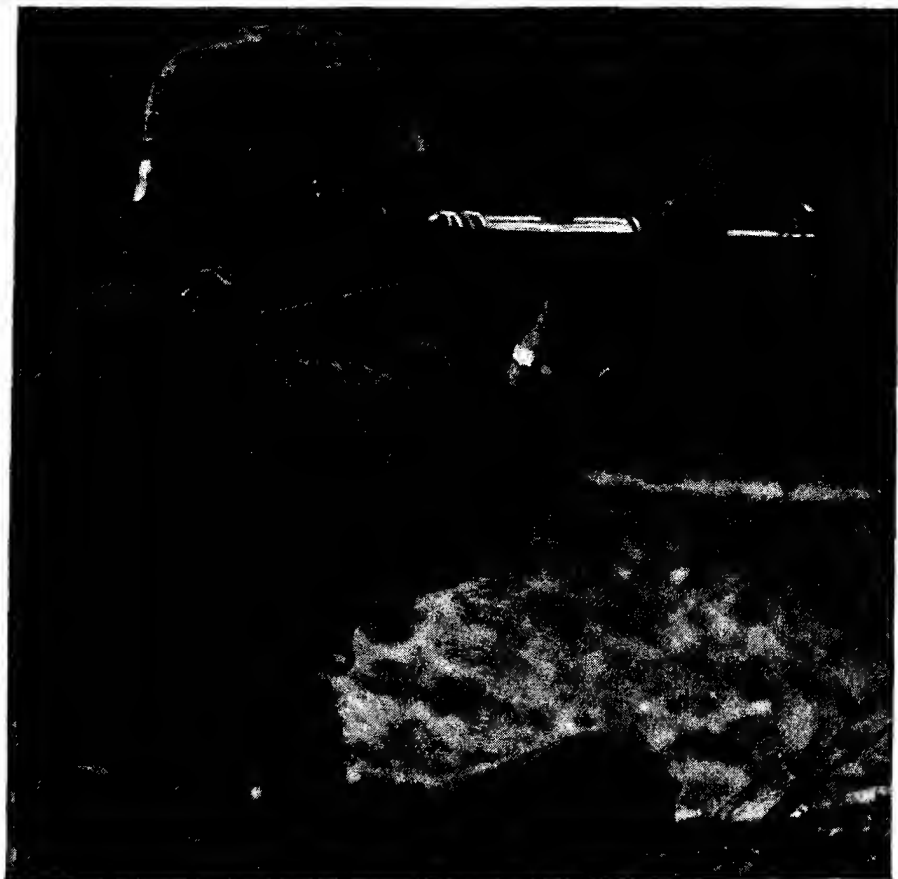

Figure 9.—M.P. 40 in action. (This photograph shows the manner of holding the pistol with the left hand when using the skeleton shoulder stock.)
(2) *To load and fire.*—Press the thumb catch above the pistol grip in order to release the skeleton shoulder stock from its folded position. Snap the shoulder stock into extended position and unfold the butt plate. Pull the operating handle back and switch it into the safety notch. Insert a loaded magazine into the feedway on the under side of the receiver until the magazine catch engages. Disengage the operating handle from the safety notch; then aim,⁷ and squeeze the trigger. The magazine can serve as a grip while firing (but see fig. 9 for the German method of firing).